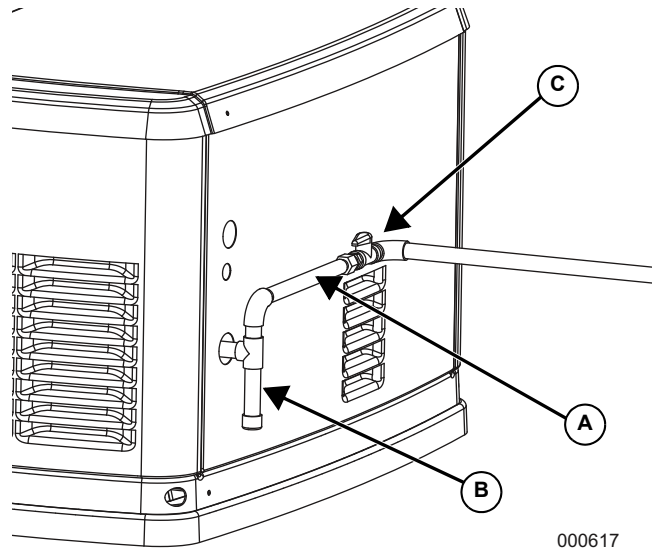

Figure 5-3. Sediment Trap
- When connecting the gas line to the generator, use a hose assembly that meets the requirements of ANSI Z21.75/ CSA 6.27—Connectors for Outdoor Gas Appliances and Manufactured Homes or AGA-approved flexible fuel line in accordance with local regulations. See **A** in Figure 5-3. The purpose of the flexible fuel line is to ensure that vibration from the generator does not cause a gas leak at one of the connection points. It is important that the line be installed with as few bends as possible. Install the recommended sediment trap (required by some local codes) and fuel shut off valve as illustrated (**B** and **C** in Figure 5-3).